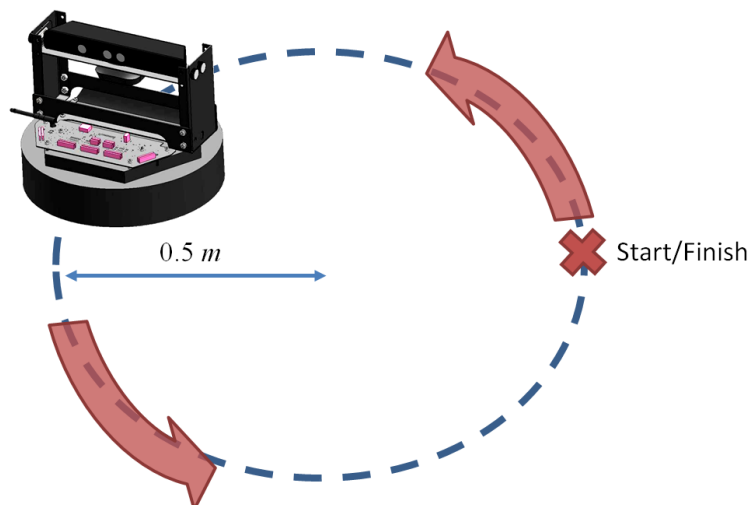

Figure 2.2: Path following controller desired path
3. Determine the theoretical right wheel and left wheel commands, and time required, for the QBot to travel in a straight line 5 meters in length. Enter your values into the appropriate fields in the controller model, indicated in blue and shown in Figure 2.2.